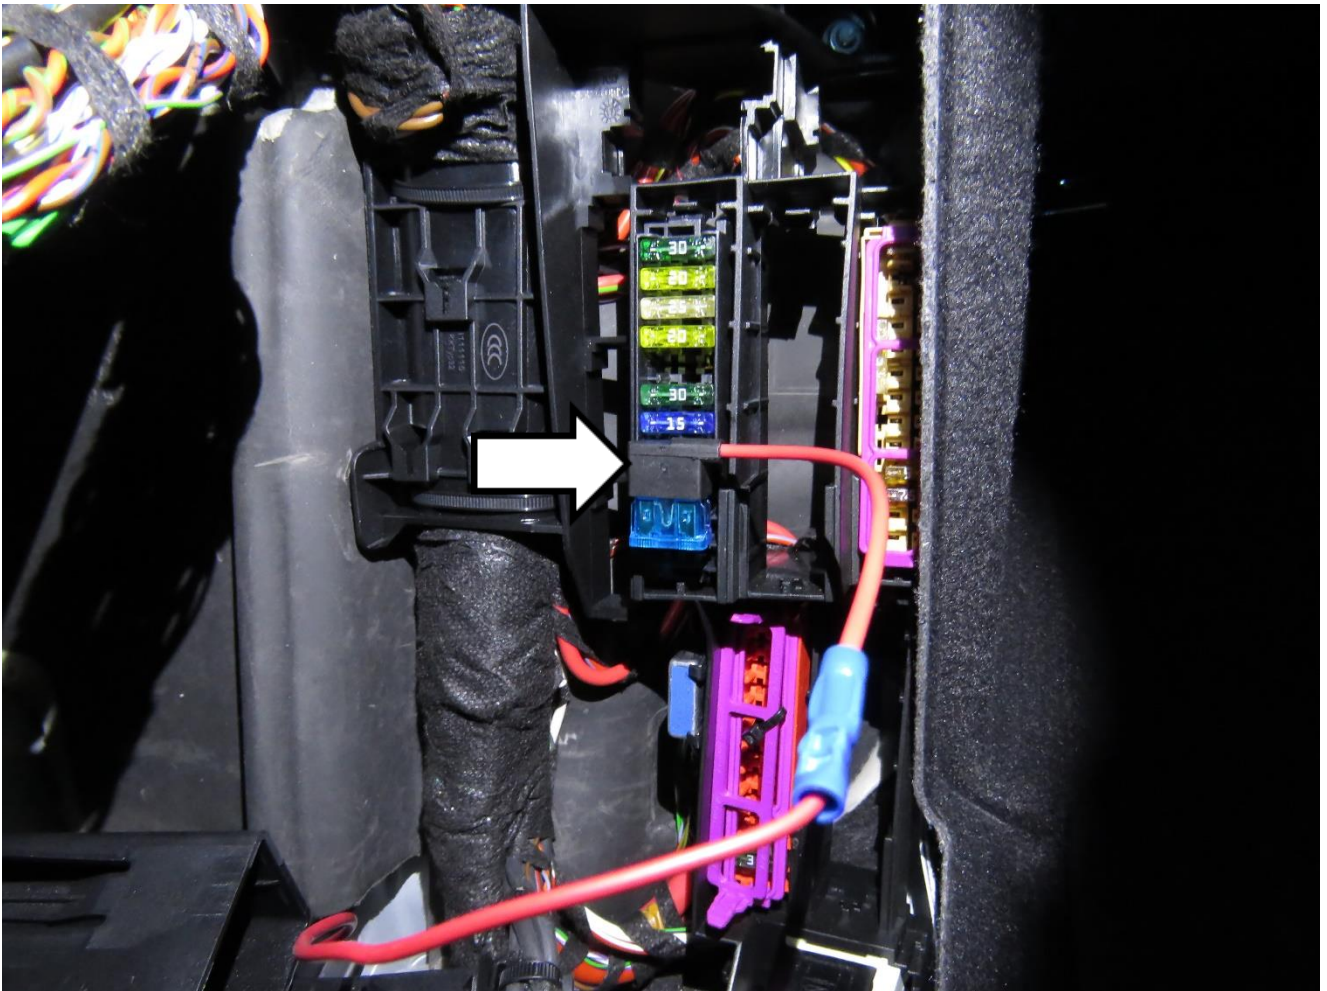

Figure 10
- 6) Fuse box can be found in the left trunk trim; open and install OBD fuse into the fuse holder as shown below, pull the positive (+) wire to the front engine compartment (Figure 10).